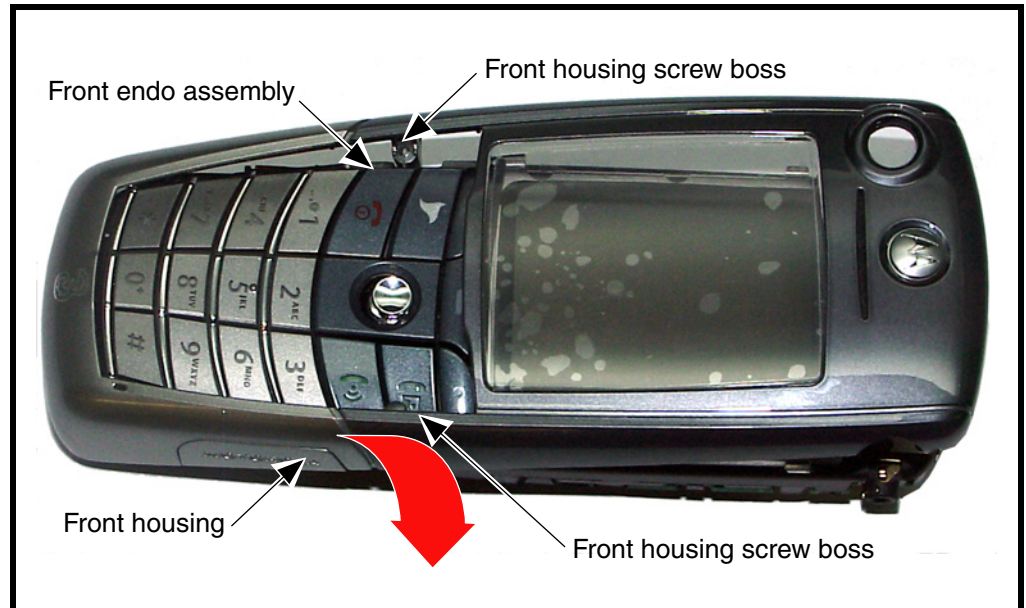

Figure 9. Removing the Endo Assembly
5. Using the flat end of the disassembly tool, first disconnect the display assembly flex connector and then the keypad flex connector (see Figure 9).